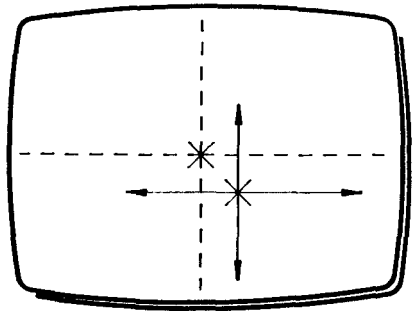

Fig 2
- 4 Now try moving XY, the cursor can move only along two axes passing through the origin cursor (Fig 2).